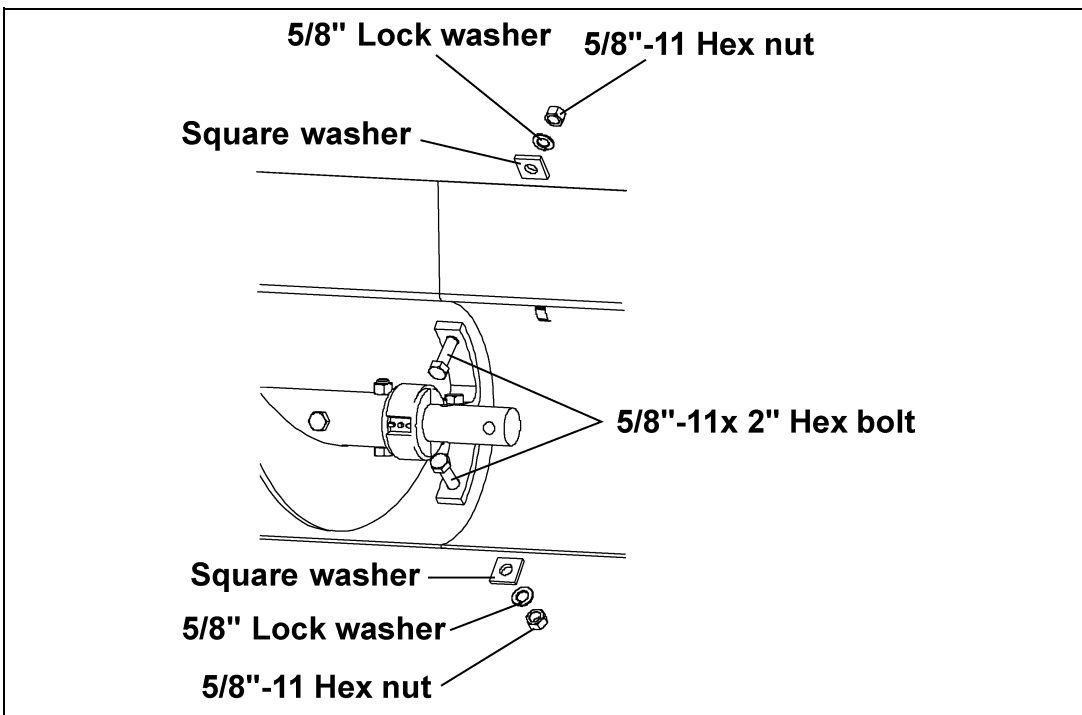

Figure 5F
B. Bolt the hanger brackets to the back shields using two (2) 5/8"-11 x 2" hex bolts, two (2) square washers, two (2) lock washers, and two (2) hex nuts as shown in See Figure 5F.